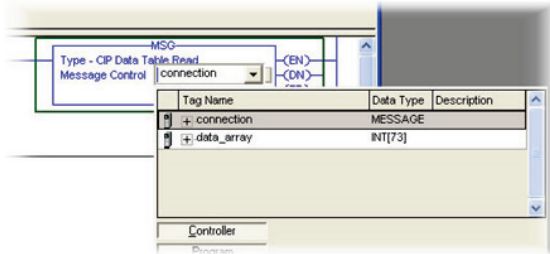

Figure 69: MSG Instruction Tag Assignment
a) Edit the "Message Control" field on the MSG instruction to use the previously-created "connection" tag. Refer to Figure 69.